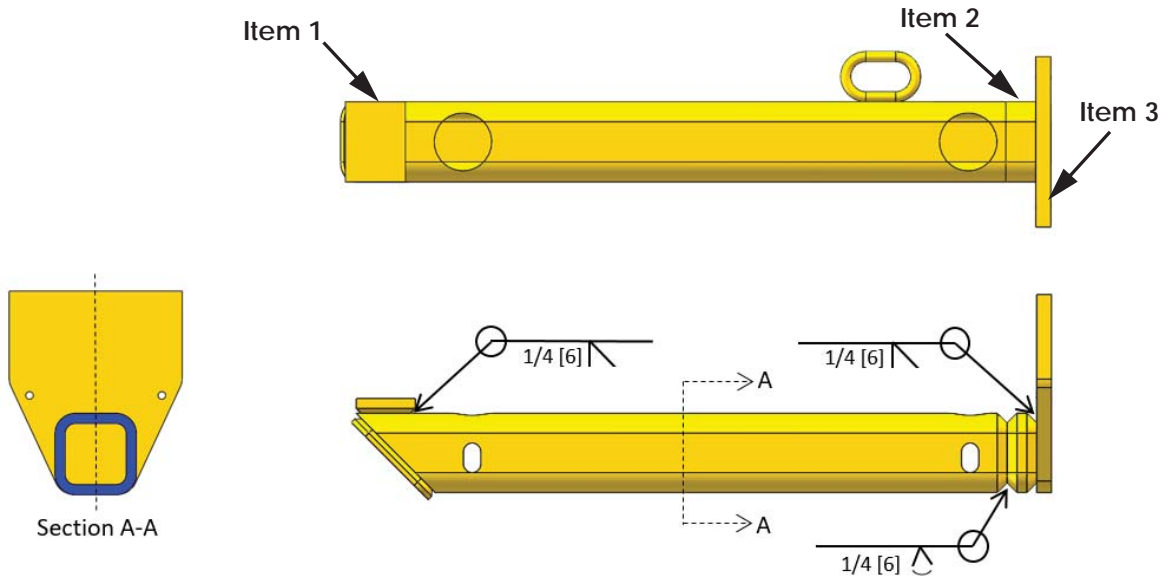

Figure 9: Fabrication details
- Use a low hydrogen welding rod E7018 to weld the spacer (Item 1), HSS (Item 2) and top plate (Item 3) to the limit switch guard as shown in Figure 9. Allow weld to slowly cool to ambient temperature using thermal blanket. Do not quench the weld.